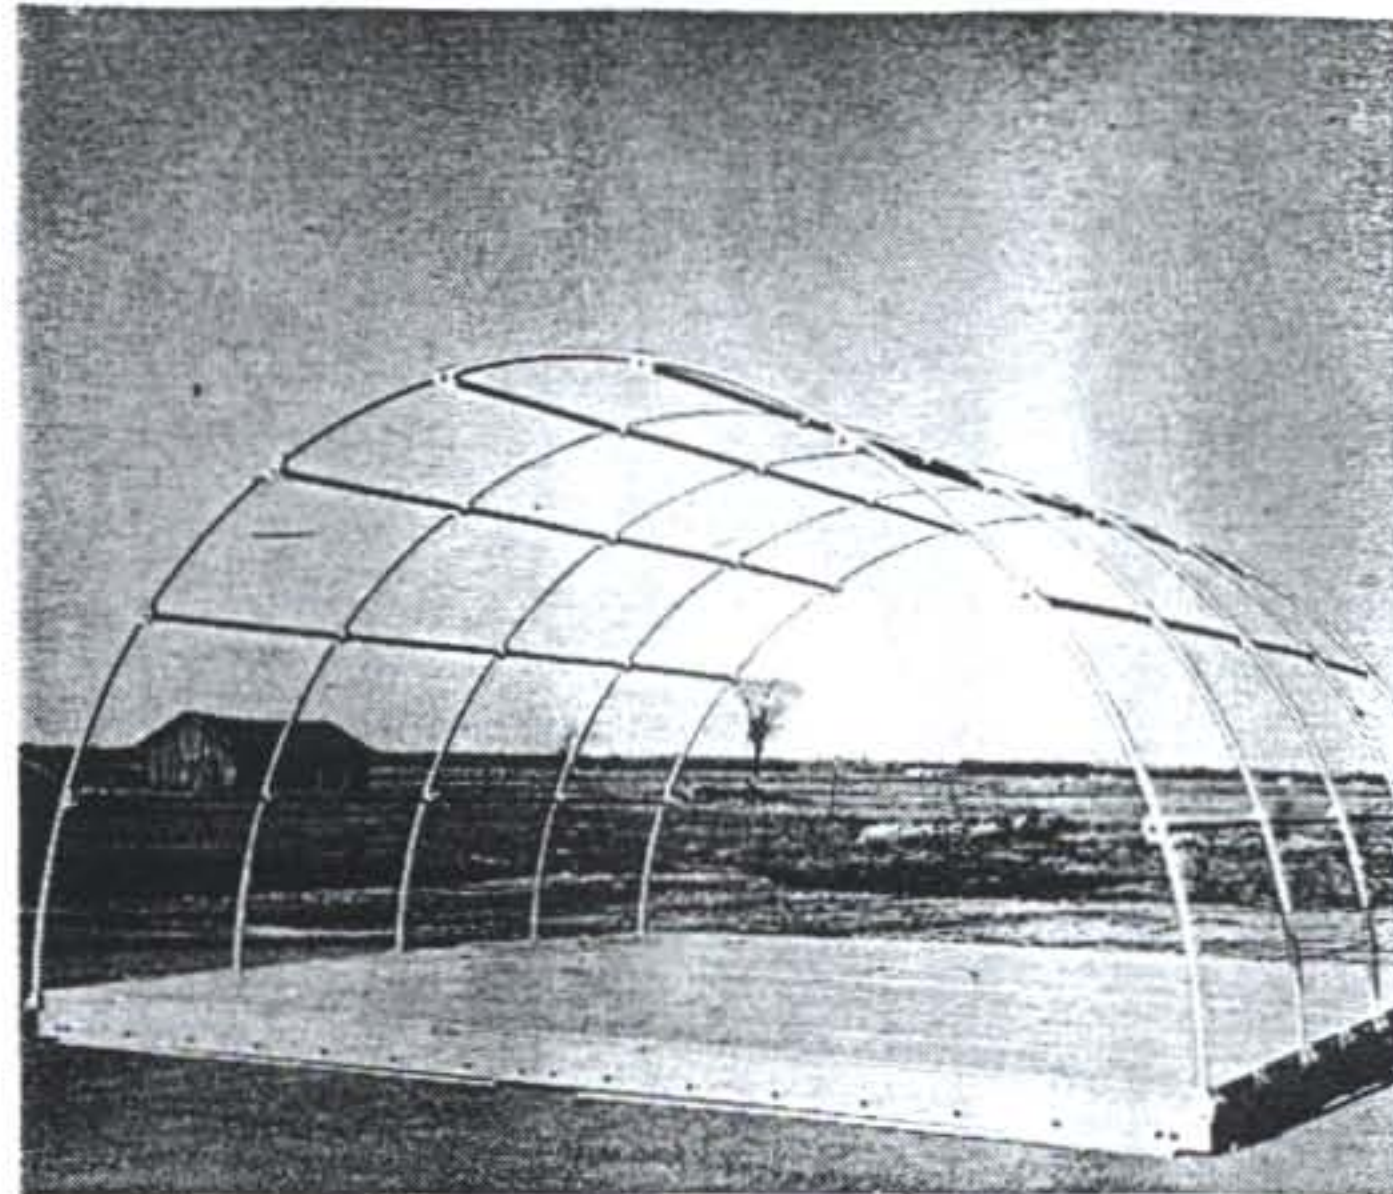

FIGURE 5
8. Joining Purlins are used to connect arches together. (SEE FIGURE 5).